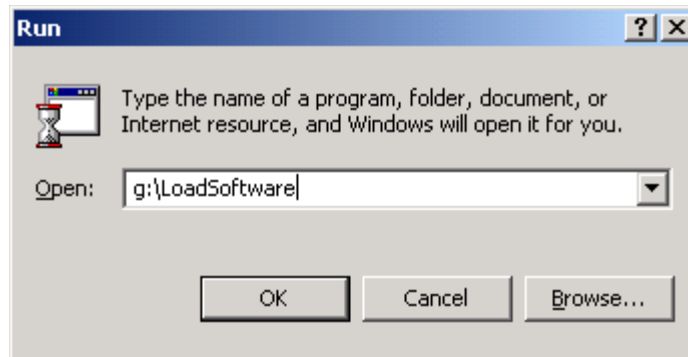

Figure 8-166 Run Load Software
- Enter “**g:\LoadSoftware**” into the dialog box as shown in Figure 8-166.